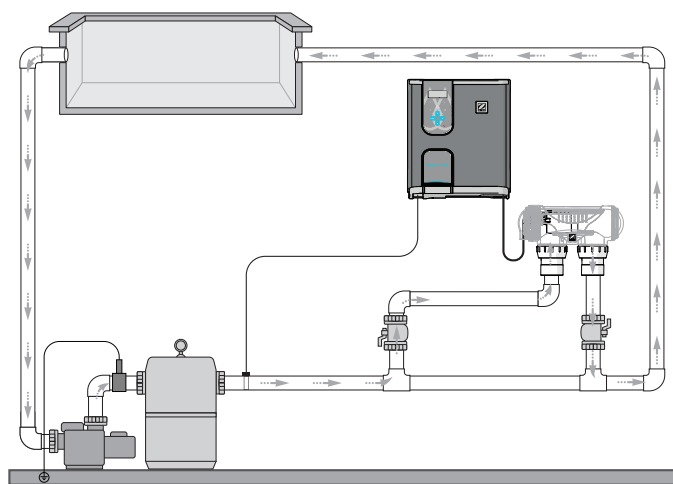

Figure 3. Plumbing Cell Only
The cell must be plumbed in a position that is accessible for maintenance and within 2 meters of the controller. The cell should be the last piece of equipment in the circulation system. The cell must be installed horizontally, level and with correct flow orientation, see Figure 3 and Figure 4.
1. If you intend to plumb the cell on a bypass, the bypass must be equipped with Isolation valves, see Figure 3 and Figure 4.
- The cell must be the last piece of equipment on the return line, see Figure 3 and Figure 4.
- It is recommended in all installations that the cell is installed on a bypass equipped with isolation valves, see Figure 3 and Figure 4.
- In order to avoid load loss, installing the cell on a bypass is MANDATORY if system flow rated exceeds 300 Lpm, see Figure 3 and Figure 4.
The temperature sensor must be installed upstream from any heating equipment, see Figure 3 and Figure 4. The sensor will need to be placed into the plumbing system at any suitable position after the filter pump and before any heating equipment.